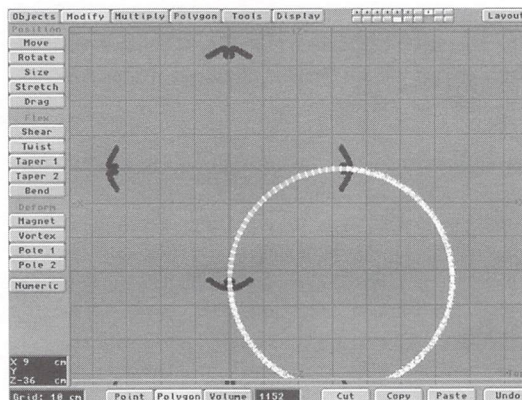

Figure 5
- In the top view, with the table legs in the background, move the entire ring that was just created until it intersects two of the table legs correctly (Figure 5). The ring can be moved or rotated from the front most edge 90 degrees to align it in
- Once you are certain the intersection is correct, cut away all of the unnecessary polygons (highlighted in Figure 5), until you're left with one-fourth of the original ring arching between two table legs.